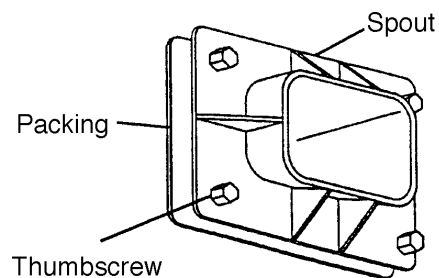

Fig. 15
- 5) Remove the thumbscrews, the Spout-Bin and the Spout Gasket-Bin. See Fig 15. For models DCM-750BAF and BWF, remove the Ice Guide, Drain Pipe Holder and Drain Pipe in the Storage Bin as well.